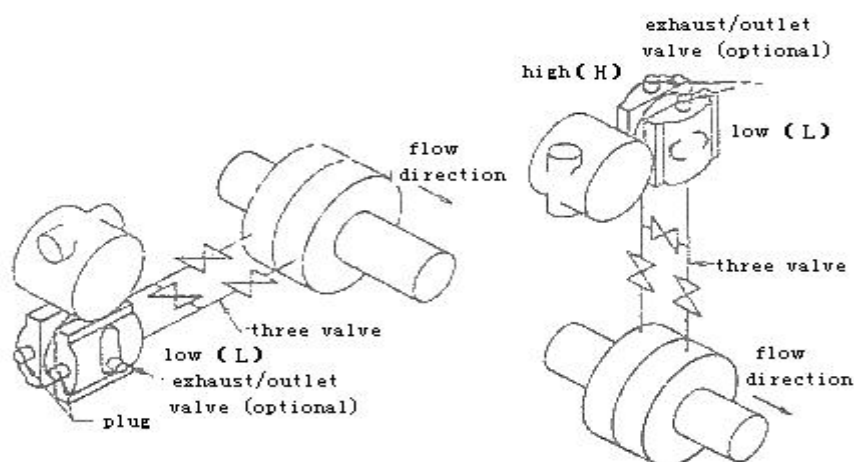

Figure 2-6 Installation for gas medium connection
**Gas:** The pressure port should be installed on the top or on the side of the flow pipe. Smart transmitter should be installed on the top of the pressure port, so that the liquid can be drained into flow pipe. As shown in Figure 2-6.